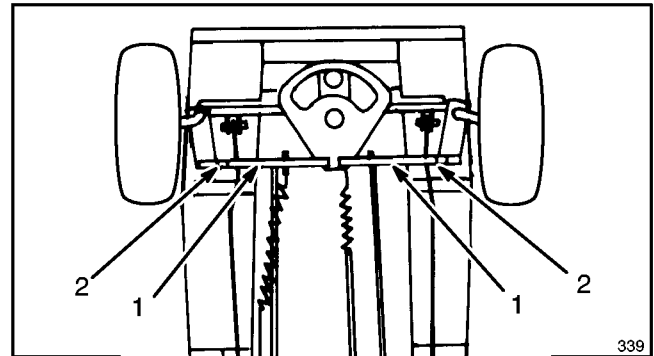

Figure 28
1. To align the front wheels, remove ball stud from steering arm. Loosen the jam nut and turn the tie rod end until the center line distance across the front of the wheels (d') is .06 inch (1.5 mm) to 0.25 inch (6.3 mm) less than the center line distance across the rear of the front wheels (d'') (Figs. 28 and 29).